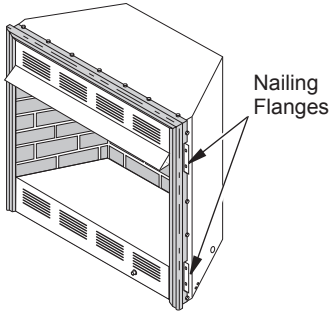

Figure 15 - Location of Nailing Flanges
7. Break off nailing flanges (see Figure 15, page 11) with hammer or pliers.